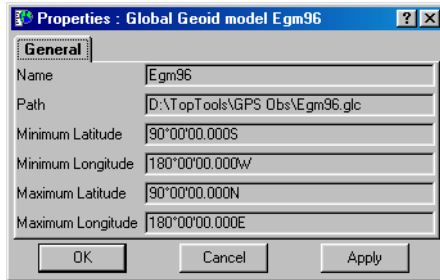

Figure A-3. Global Geoid Model Properties
4. To check the installation, right-click the global geoid on the *Geoids List* dialog box and click **Properties** on the pop-up menu. The *Properties* dialog box displays the selected geoid's information (Figure A-3).